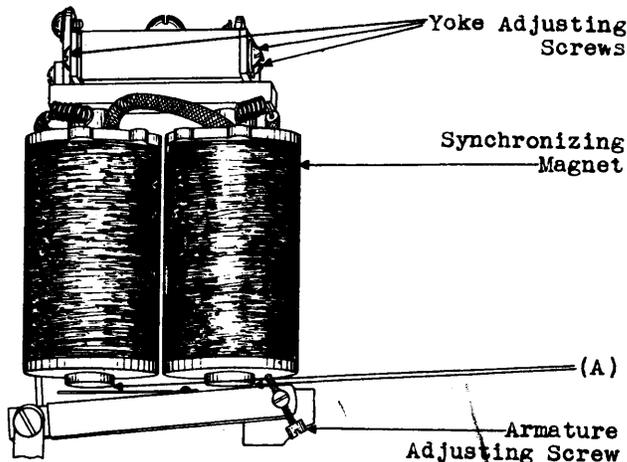

Fig. 6 - Synchronizing Mechanism
*2.22 Armature Air-Gap - Fig. 6 (A): With the armature in the operated position there shall be a clearance between the synchronizing armature and each of the two pole-pieces of